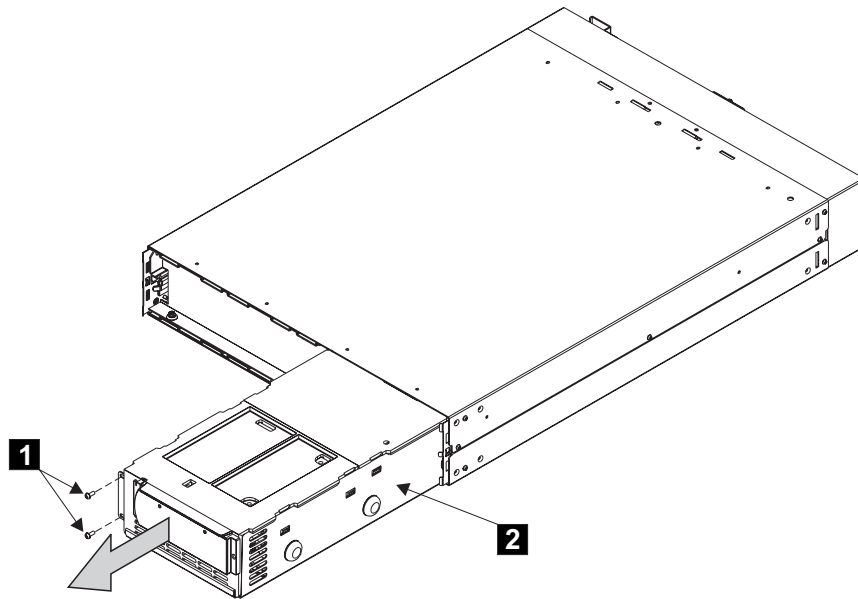

Figure 23. Removing the uninterruptible power supply electronics assembly
3. Remove the two screws (1 in Figure 23 on page 25).
4. Pull the electronics assembly (**2** in Figure 23) out of the uninterruptible power supply, and put it to one side.